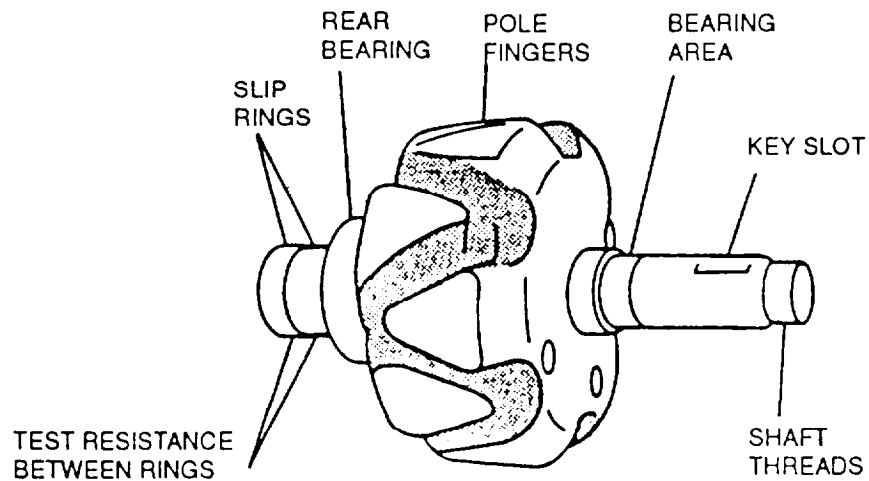

Figure 4-6. Rotor Test (Both Models)
- e Set multimeter for ohms and check rotor assembly (Figure 4-6) for 40.5 - 43.8 ohms indication (Model 8EM3005CA) (11 - 14 ohms for Model 8MR3005CA) between slip rings. Also check that open circuits are indicated between rotor body and each slip ring. Replace entire rotor assembly if indications are other than stated